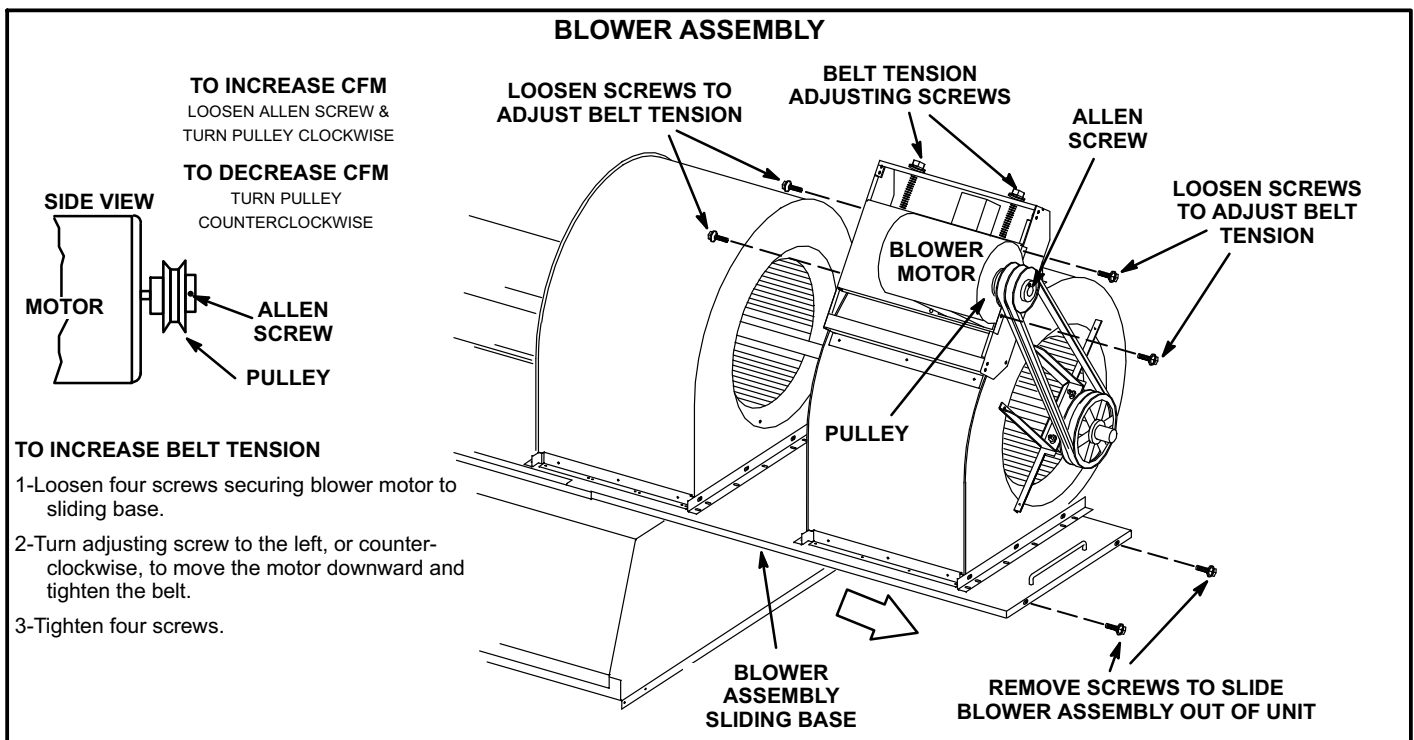

FIGURE 9
The blower compartment in all units is located between the evaporator coil and the compressor / control section on the opposite side of the condenser coil. The blower assembly is accessed by disconnecting the blower motor wiring (and all other plugs) and removing the screws on either side of the sliding base. The base pulls out as shown in figure 9.
- 2- Remove screws on either side of blower assembly sliding base. See figure 9.
4- *Constant Air Volume (CAV) Supply Air Blowers* - The blower RPM can be adjusted at the motor pulley. Loosen Allen screw and turn adjustable pulley clockwise to increase CFM. Turn counterclockwise to decrease CFM. See figure 9. Do not exceed minimum and maximum number of pulley turns as shown in table 1.
5- *Variable Air Volume (VAV) Supply Air Blowers* - Adjust motor pulley to set-up maximum blower RPM and CFM at 60 HZ. Do not exceed brake horse power of the motor. Loosen Allen screw and turn adjustable pulley clockwise to increase CFM. Turn counterclockwise to decrease CFM. See figure 9. Do not exceed minimum and maximum number of pulley turns as shown in table 1.
- 1- Loosen four screws securing blower motor to sliding base. See figure 9.